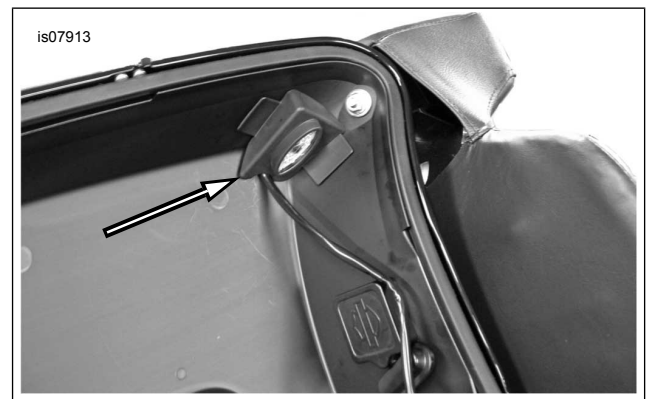

Figure 1. Tour-Pak Interior Light
2. See Figure 1. Test-fit the Tour-Pak light to the inside of the Tour-Pak lid. Do not remove protective tape from adhesive strips now.